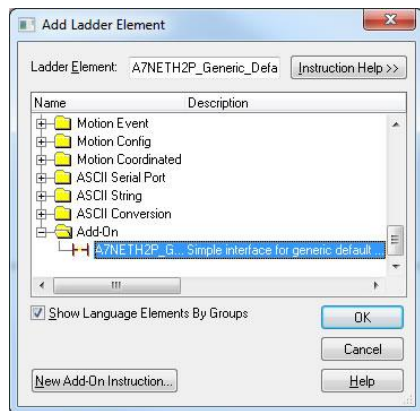

Figure 32: Add Generic Default Add-On Instruction
- Select the generic default I/O add-on instruction in the Add-On folder. Refer to Figure 32.